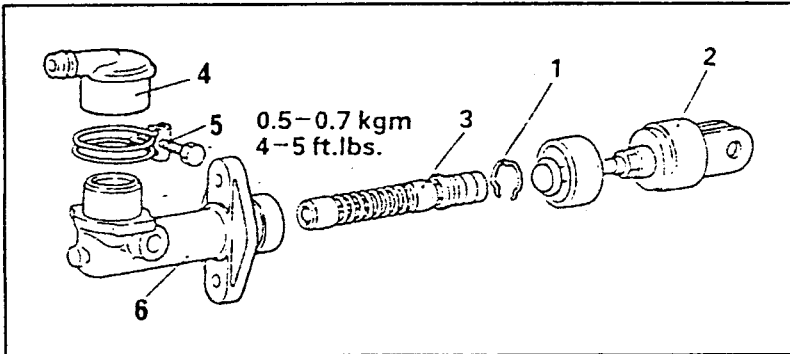

Fig. 6.5. — Exploded view of the clutch master cylinder.
Cylinder Overhaul: Clamp the cylinder into a vice, with the opening towards the top, and push the push rod towards the inside until the snap ring (1) in Fig. 6.5 can be removed from the cylinder bore. Remove the push rod and extract the piston out of the cylinder bore.